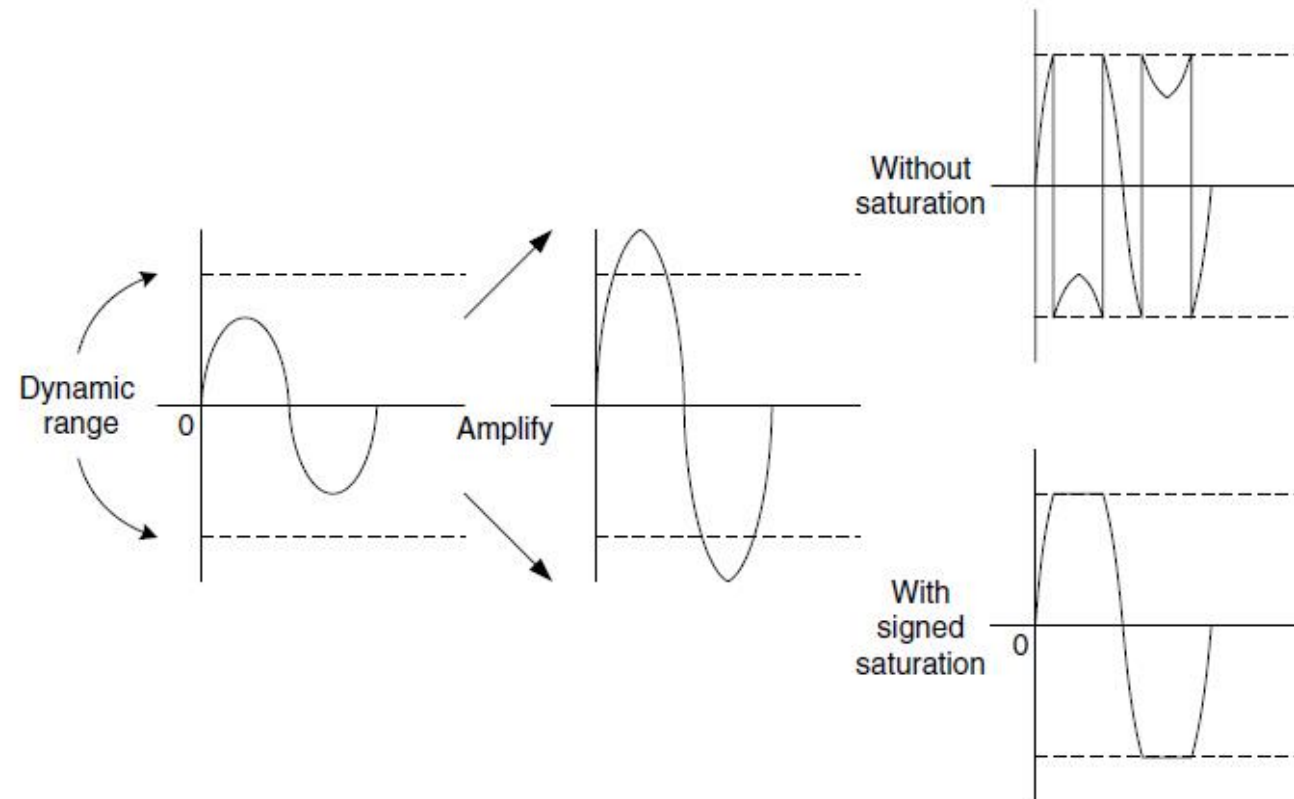

FIGURE 4.3
- If the value is adjusted simply by removing the unused MSB, an overflowed result will cause the signal waveform to be completely deformed, as shown in Figure 4.3.